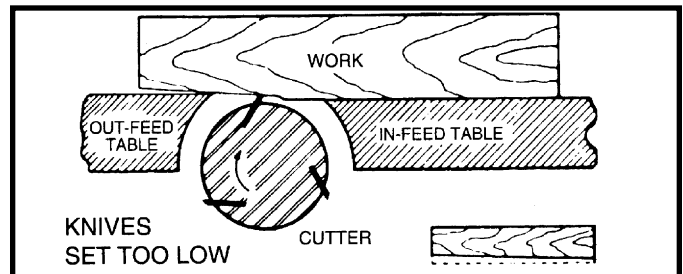

Fig. 27
7. If the knives are set too low, the result will be as shown in Fig. 27, and the finished surface will be curved.